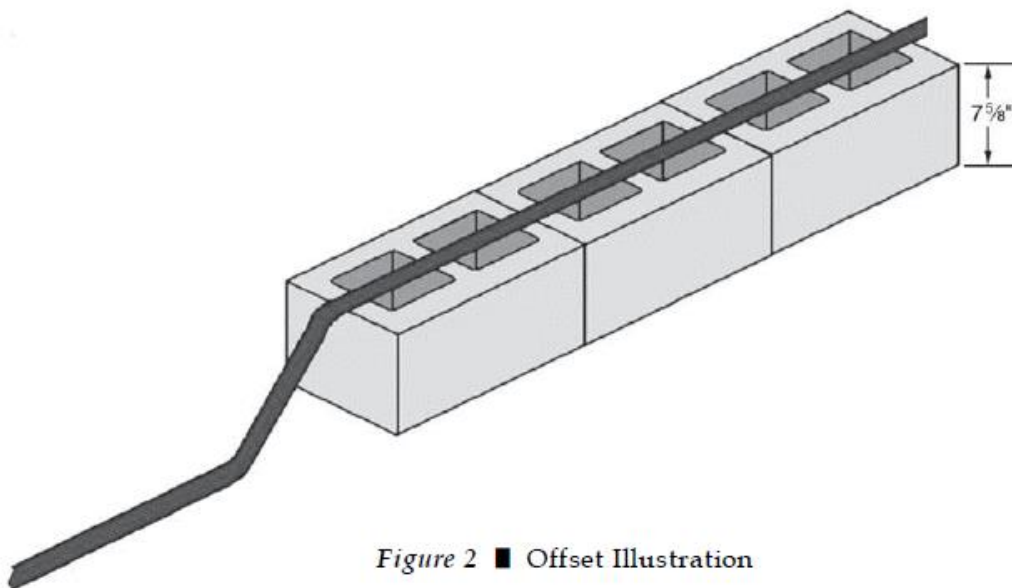

Figure 2 ■ Offset Illustration
5. Remove the conduit from the bender and check its clearance over the obstacle (*figure 2*).